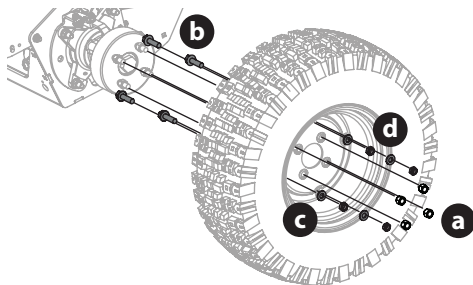

Fig. 53
3. Remove the four lug nuts (a) to remove the inner wheel (Fig. 53).
4. If replacing the inner tire, remove the four hex screws (b), washers (c) and jam nuts (d) that hold the mounting screws in place for the dual wheel adapter (Fig. 53).